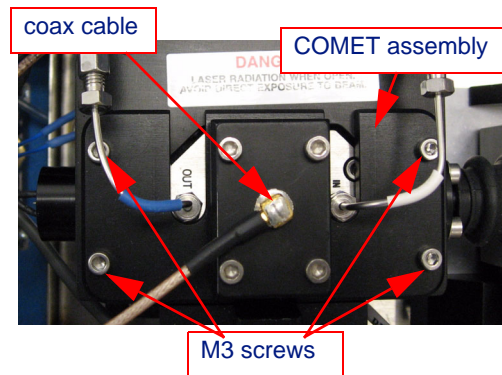

Figure 5-14: Flow Cell with COMET Option
12. Using the 2.5 mm Ball driver, install the four M3 hex-head screws securing the COMET assembly. Refer back to Figure 5-14.